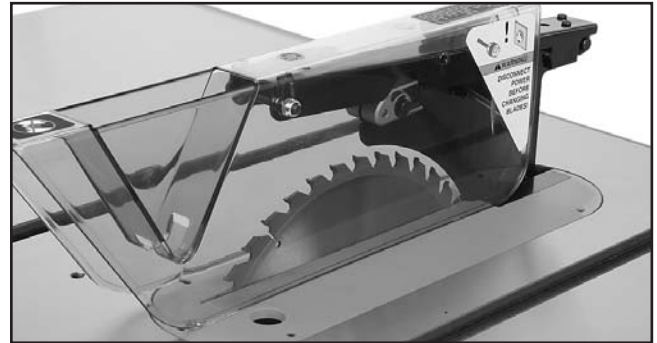

Figure 23. Blade guard assembly installed.
23. Install the blade guard assembly and replace the table insert. The blade guard, when properly installed, should look like **Figure 23**.